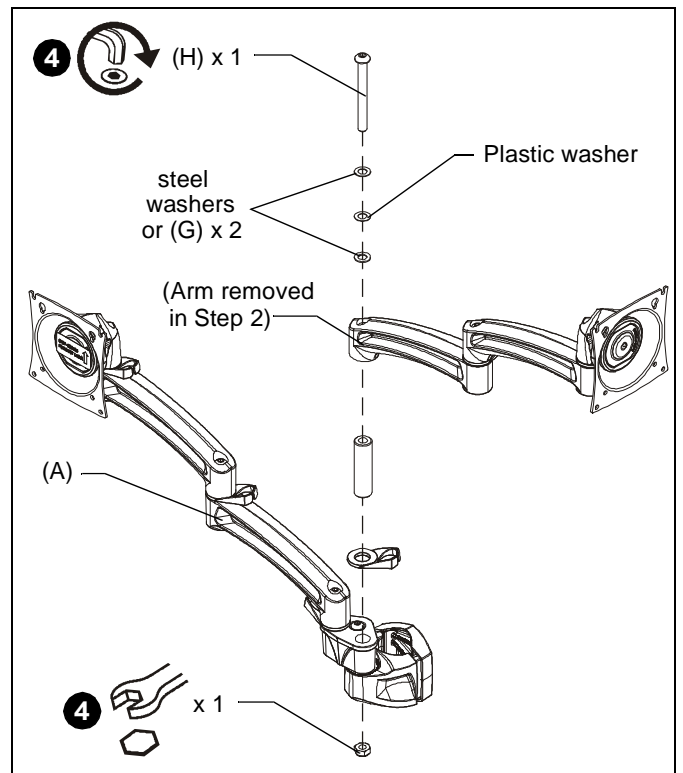

Figure 3
- Reattach original mount arm (removed in Step 2) re-using hardware removed in Step 2 and one 5/16-18 x 3 1/8" button head cap screw (H). (See Figure 3)